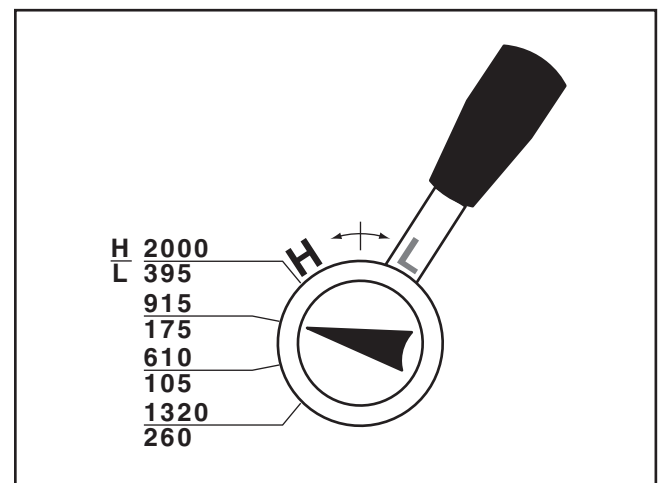

Figure 76. Spindle speed of 175 RPM selected.
2. Move the spindle speed range to the low position (to the right), as illustrated in **Figure 76**.